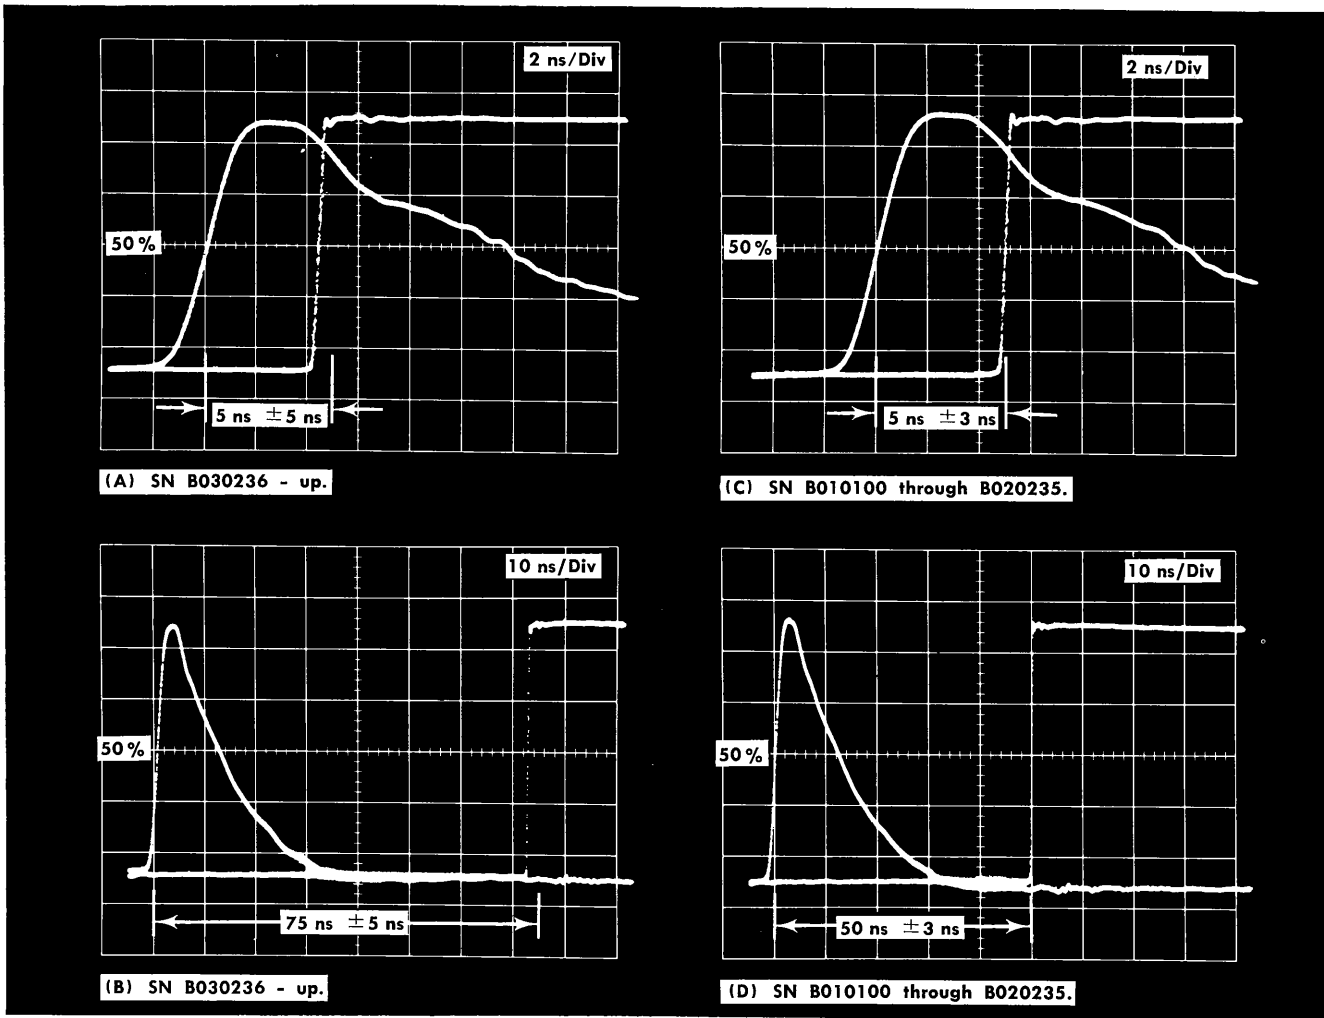

Fig. 6-27. Display when checking Lead Time tolerances.
**16. Adjust Bias Balance, R123** ①
- c. Reconnect the signal and adjust the Bias Balance control R123 on the Pulse Generator board (see Fig. 6-27 for
d. Adjust Snapoff Current R174 (see Fig. 6-27 for location) to obtain 5 ns between the Trigger and the Pulse display. Readjust the TD BIAS control as necessary to obtain a stable PULSE OUTPUT display.